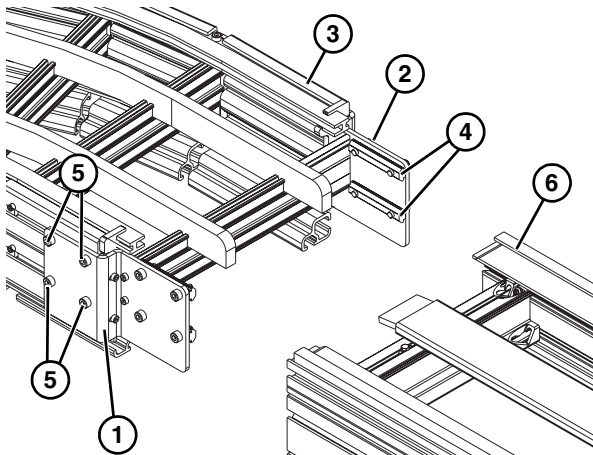

Figure 10
Typical Curve Connecting Components (Figure 10)
1. For joining curved to straight sections, install left offset connecting plate (Figure 10, item 1) and right connecting plate (Figure 10, item 2) onto curved section (Figure 10, item 3) with two drop-in tee bars (Figure 10, item 4) and four M6x16 socket head screws (Figure 10, item 5), making sure the straight frame section is flush to the curve section crossmember.
2. Secure straight section (Figure 10, item 6) onto curved section with the same hardware as previous step. Tighten all socket head screws to 60 in-lb (7 Nm).